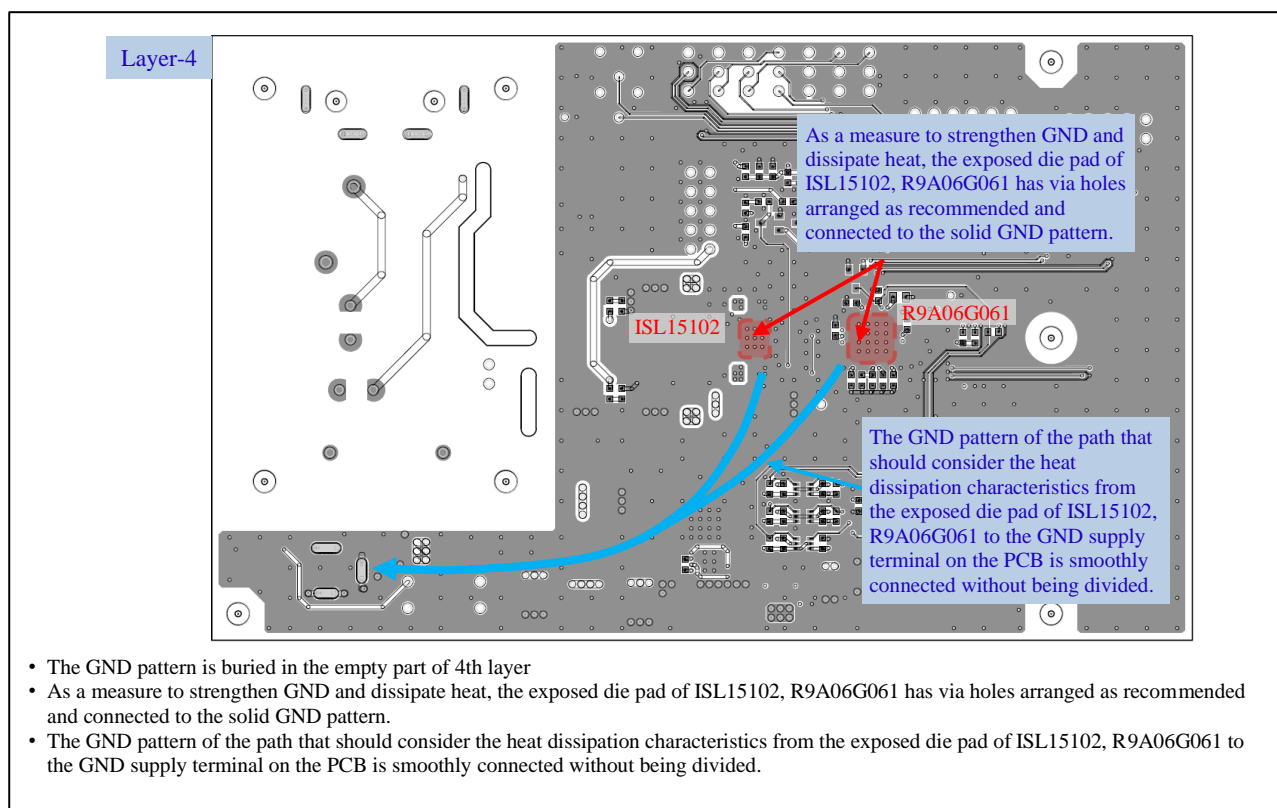

Figure 2-15 Example of connection between exposed die pad of R9A06G061 and ISL15102 and GND pattern (4th Layer)
- In the 4th layer, the GND pattern is especially important for heat dissipation design. In order to further improve heat dissipation performance, widen the area of the GND pattern and connect the Exposed die pad of R9A06G061, ISL15102 to the GND pattern. Then, connect as smoothly as possible so that there are no obstacles in the path to the Exposed die pad of the ISL15102 and the GND supply terminal on the PCB. (An example is shown in Figure 2-15.) (Reason: Since large current flows in ISL15102 (Power amplifier for transmission) when transmitting at low load, heat dissipation will deteriorate if the connection between the Exposed die pad of ISL15102 and the GND pattern is not appropriate. Then, the thermal shutdown function of the ISL15102 may intermittently stop the output of the signal.)